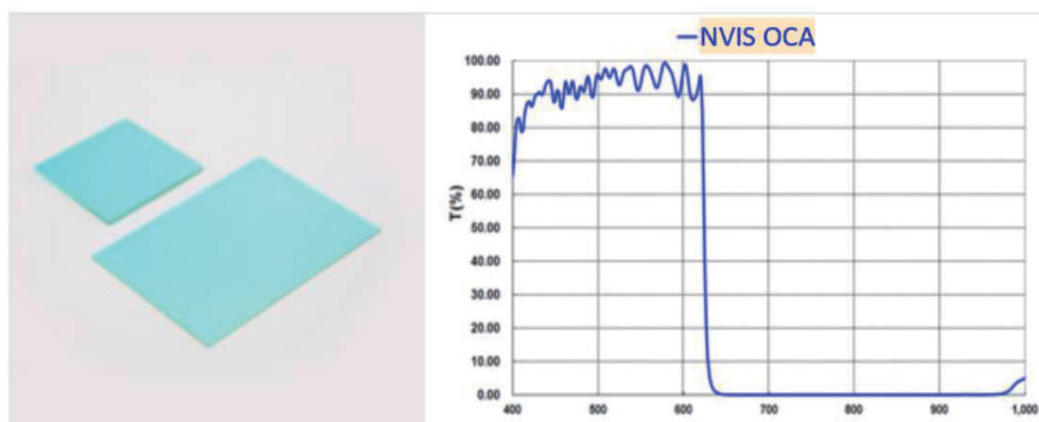

Figure 3: NVIS OCA
- (2) Using NVIS OCA (Optical Clear Adhesive) for full adhesion between the protective cover lens and the display (Figure 3). The drawback is that the display remains in a permanent NVIS mode, showing only green images without other colors during the daytime when NVGs (Night Vision Goggles) are not needed.